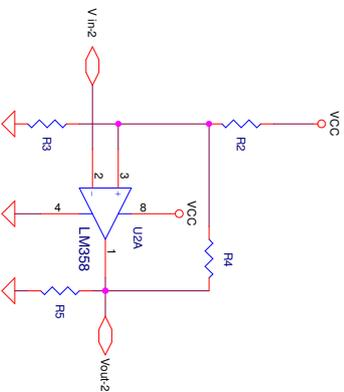

Fig. 10. Schematic of the comparator with hysteresis
a) **Power off the circuit.** Measure and identify the resistances R_2 , R_3 , R_4 , R_5 ($R_2 \approx 68\text{K}\Omega$, $R_3 \approx 27\text{K}\Omega$, $R_4 \approx 68\text{K}\Omega$, $R_5 \approx 68\text{K}\Omega$). Make the circuit in Fig. 10, on the test board (solderless). Connect the scope, CH1 at V_{in2} and CH2 at V_{out2} . At the input V_{in2} , apply, from the generator, a triangular signal with the frequency of 1kHz, the amplitude $A=2\text{V}$ and DC bias $A_{\text{mean}}=2\text{V}$ (Adjust DC bias from the **OFFSET** knob, from the generator, "pulled"). **Power on the circuit,** set $C_2 = 1\text{V/div}$, for CH1 and CH2, and the 0V level at one division above the bottom of the screen (for both channels). Draw the two waveforms, superimposed.
b) Using the voltage cursors, measure the levels of the output voltage, $V_{out2\text{H}}$, $V_{out2\text{L}}$, and the input voltages, corresponding to the two thresholds (U_{p1} and U_{p2}), $V_{in2\text{p1}}$ and $V_{in2\text{p2}}$. Compute the threshold voltages, U_{p1} and U_{p2} , using the relations (7).